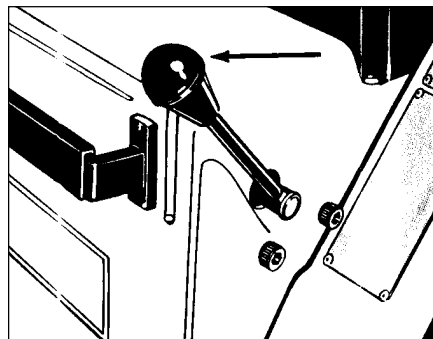

Figure 7
6. Rotate the release lever forward. See figure 7.